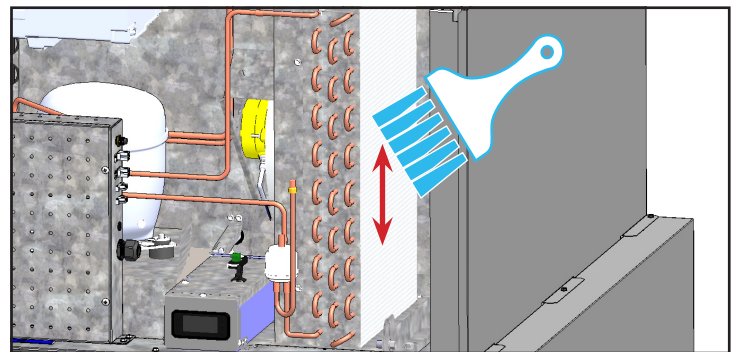

Fig. 3. Never brush across coil fins.
3. With a stiff bristle brush, carefully clean accumulated dirt from the front condenser coil fins See fig. 3.